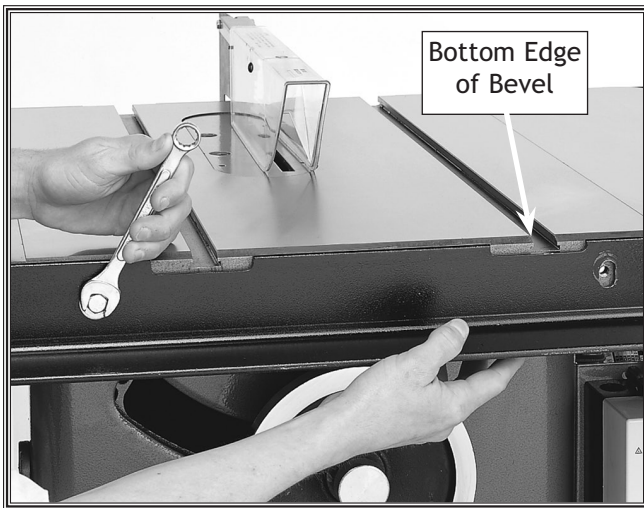

Figure 3. Attaching the front rail bracket.
2. Set the top edge of the front rail so it is flush with the table top and the cutouts are in line with the miter slots. If your saw table has a beveled front edge, then align the top of the rail with the bottom edge of the bevel. See **Figure 3**.